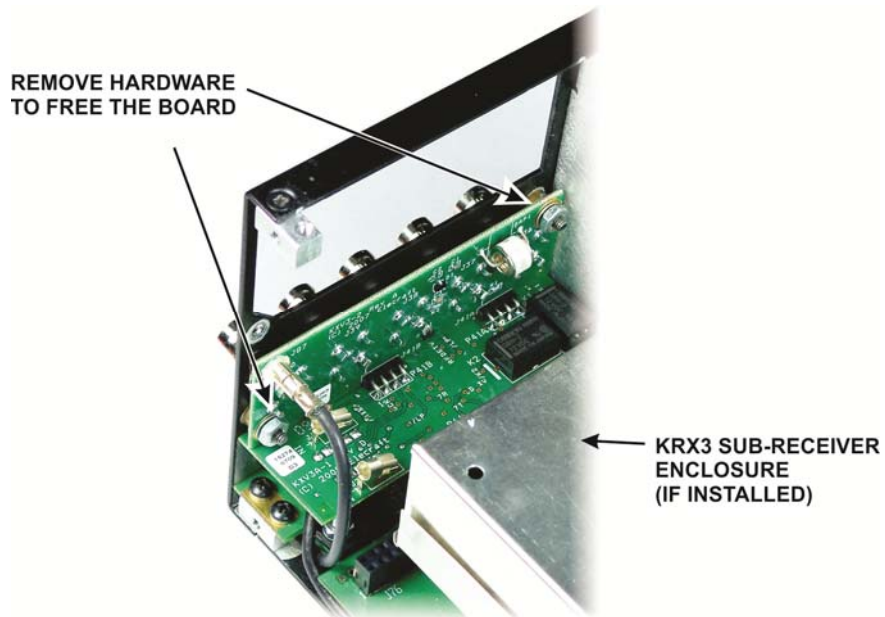

Figure 9. Removing the KXV3 Board.
- You can leave the KXV3 board (Figure 9) in place or unplug it at this time. If left in place, be careful that you don’t dislodge it accidentally.
If present, replace the KXV3 rear panel and secure the assembly using the two 4-40, 1/2" (13mm) screws, #4 lock washers and 4-40 nuts that you removed earlier (Figure 9, pg 6).